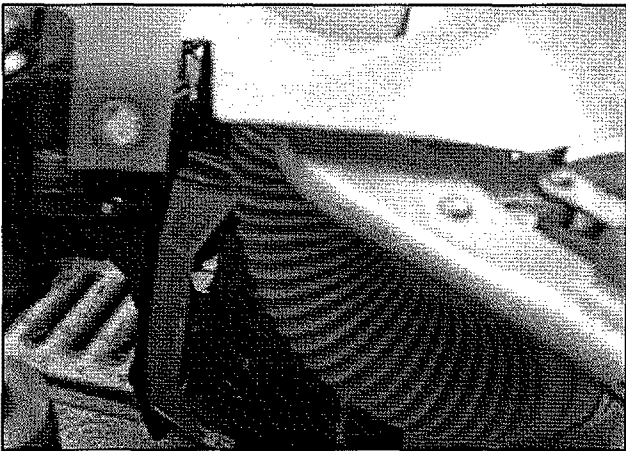

FIGURE 15
16. Remove Drain Hose: Remove the upper clamp and slide the hose off of the tub port. See *Figure 15*.